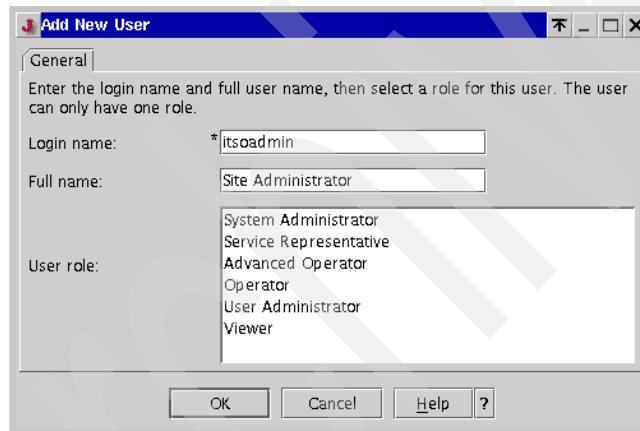

Figure 4-2 Adding a new user
4. Select Users → **New** → **User**. This opens the Add New User window shown in Figure 4-2.